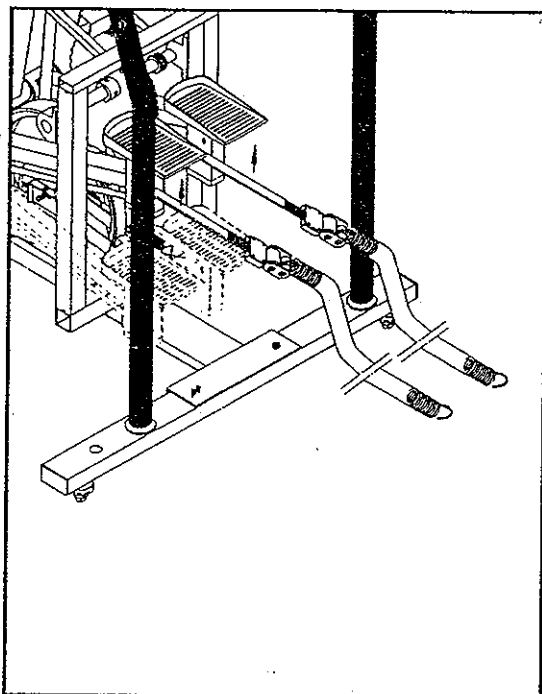

Fig.26
7. Raise both foot pads to their highest positions. Match the teeth of the poly-V belt into the gear teeth (see Fig. 26 & 27).